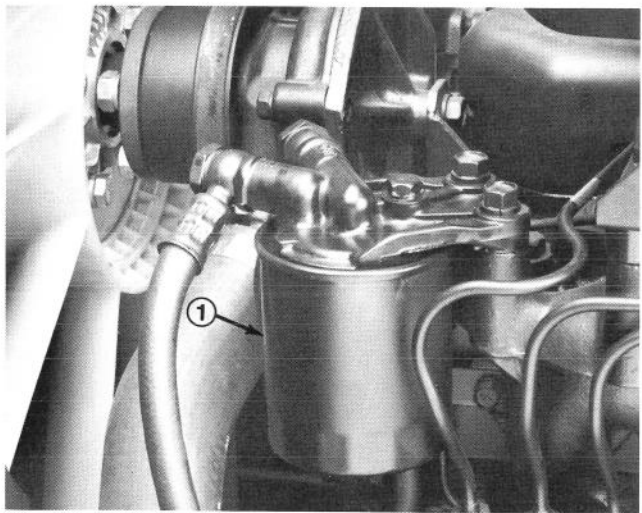

Figure 35
3. Every 1000 hours operation, or yearly, replace the engine fuel filter (Fig. 35) – left front side of engine – and drain water from the fuel tank. Apply clean fuel oil to the filter O-ring. Use hands only to install and tighten filter.